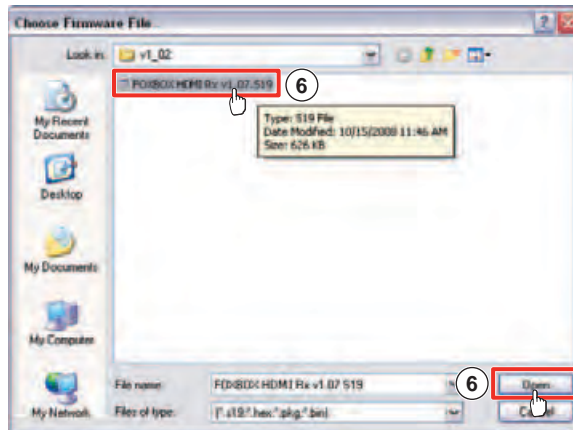

Figure 24. Choose Firmware File Window
- Select the FOXBOX unit and click **File > Open**. The Choose Firmware File screen appears (see figure 24).